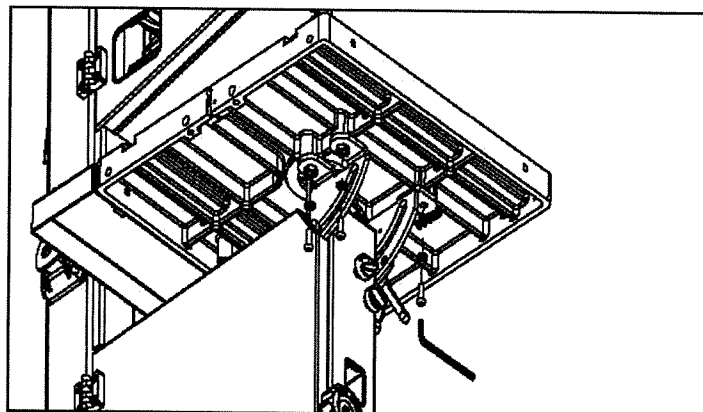

FIGURE 3
2. Attach the table to the trunnion with the four Washers and Hex Bolts (#15C, 16C). Install two bolts to the right of the blade, hand tightened only. Next loosen the trunnion with the Locking Lever, tip the table to 45 degrees and install the two bolts to the left of the blade. **DO NOT** fully tighten the bolts at this time. Return the table to the horizontal position. FIG. 3.